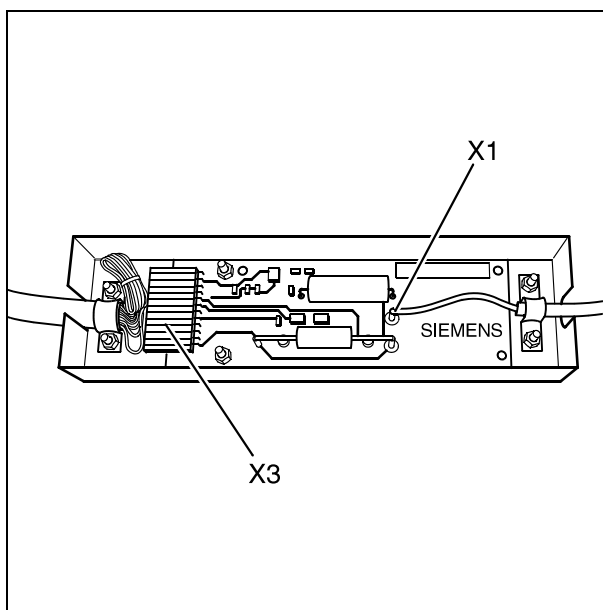

Fig. 14:
- Connect the IONTOMAT lead coming from the unit in the chamber converter (Fig. 14 / p. 27), core to X1 and shielding under strain relief.